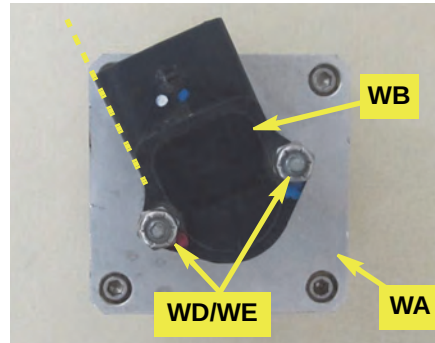

Figure 1a: Prepared WAS housing\connector
- a. Locate the cable connector set in the compartment behind the mesh service door by the service step on the left side of the machine forward of the left rear wheel (Figure 1a with inset).
Figure 1a with inset: Compartment (inset) and compartment location
- Using the provided hardware **WD** (screw) and **WE** (nut), attach the WAS wire connector **WB** to the WAS housing **WA**. Install the bolts up through the bottom of the housing. Mount **WB** with its left edge in line with a corner of **WA** (Figure 1a).
(1) Although measurements and floor mat references provide an accurate guide, ensure that when installed, the bracket will be perpendicular to the front of the machine (that is, parallel to the machine's fore/aft centerline). Also, use a small level to set the bracket as level as possible - see steps following.
(2) Install ECU mounting bracket **EL** in the location specified for your model (Figures 1a and 1b).
- a. **STS models:** Drill a 9/32" hole 3 1/2" from the front edge of ECU mounting bracket **EL** in line with the front outer hole (Figure 1a inset).
Place bracket **EL** on the floor to the right of the driver's seat with its one-inch tabs toward the seat. Set the bracket parallel to the machine's fore/aft centerline and with (Figure 1a):
- c. **All models:** Using self-drilling screws **EN** (STS) or **EO** (S-Series - neither shown), fasten bracket **EL** to the floor (Figures 1a and 1b). Use a small level (not shown) to level the bracket as close as possible.
Figure 1a with inset: Preparing and installing ECU mounting bracket - STS